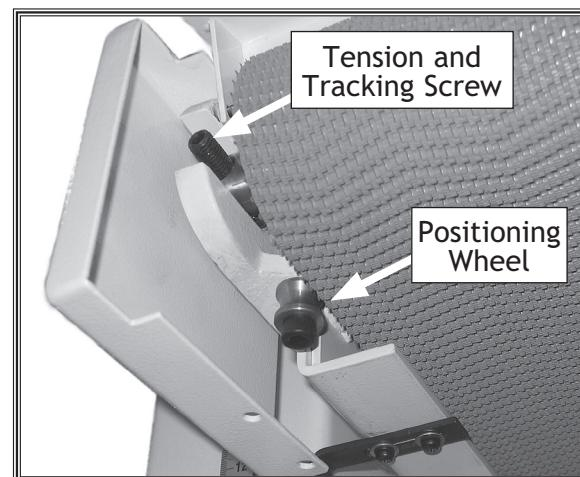

Figure 32. Conveyor belt tension and tracking adjustment locations.
The conveyor belt tension and tracking has been set at the factory. However, adjust the conveyor belt tension and tracking if you notice that your conveyor belt is slipping or is tracking off center, or loading up against the positioning wheels (Figure 32) under the conveyor table.
4. Turn the conveyor belt tension and tracking screws again as required to position the conveyor belt roller evenly on each side. See **Figure 32**.